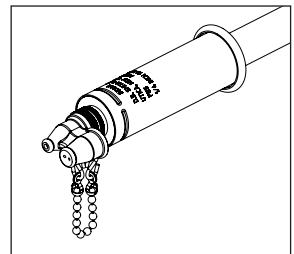

Figure 5.
1. Determine which spray pattern is desired. The nozzle has a single-hole option for a stream pattern or a two-hole option for a fan pattern. **See Figure 5.**